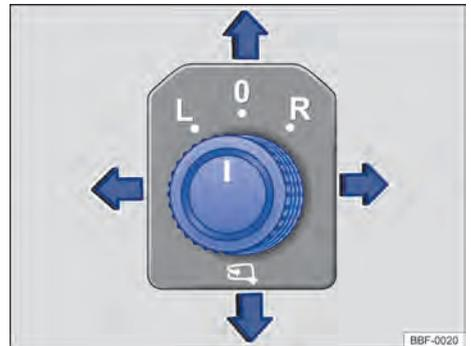

Fig. 77 On the driver door: rotary adjusting knob for the electric exterior mirrors.
- Rotate the rotary knob in the driver door until reaching the desired icon → Fig. 77.